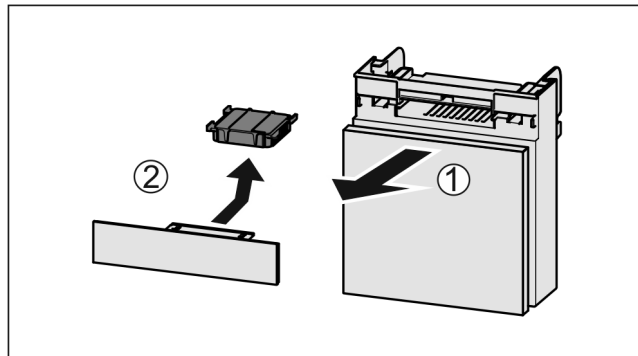

Fig. 50
- ▶ Pull out the compartment Fig. 50 (1).
- ▶ Remove the carbon filter Fig. 50 (2).